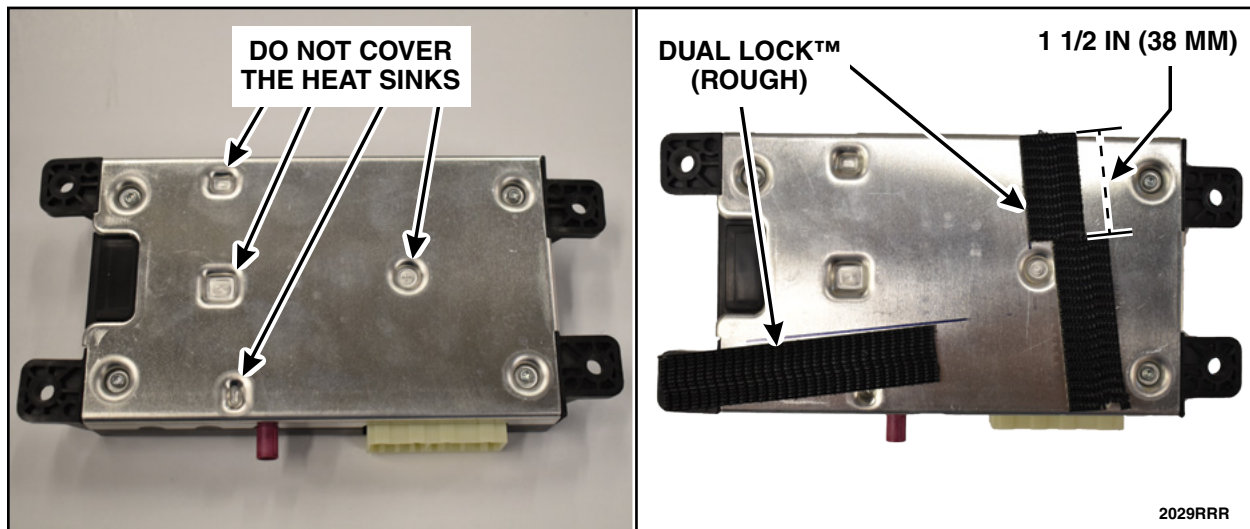

FIGURE 3
6. TCU Preparation. See Figure 3.